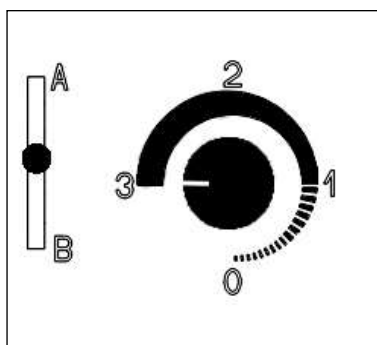

Fig. 11. Lighting and reloading
1. Be sure the ash drawer is closed and secured. Slide the Burn Type Lever to the centre position (See the setting on fig.11).
2. Open the Burn Rate Knob all the way by turning to the left. This knob may be turned manually or by pressing "ON/HI" on the remote control (optional). (See the setting on fig. 11).